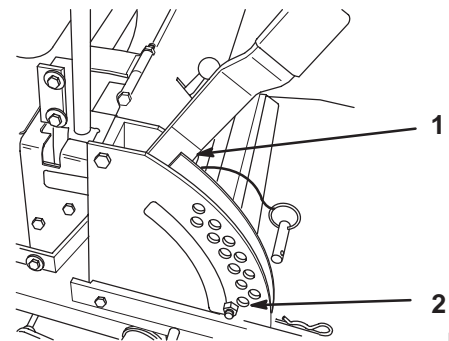
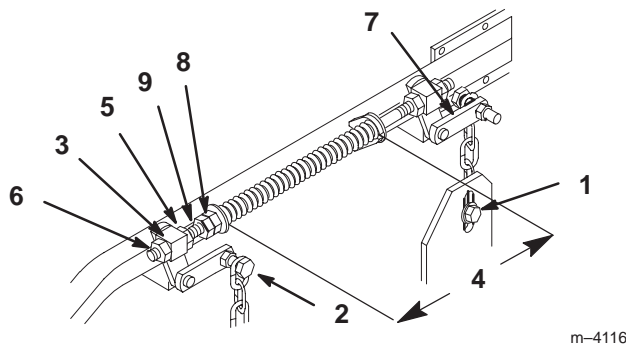

Figure 52
Figure 53
2. Check tire pressure of all four (4) tires. If needed, adjust to 13 psi (90 kPa).
4. Raise the deck to the transport position (Fig. 52). Take force off of the two large deck lift springs by loosening jam nut and front spring nut, in front of each spring, as far as possible (Fig. 53).
5. Place two 1-3/8" (35 mm) thick blocks under rear left and right lower edge of mower. Place one 1-3/4" (44 mm) block under front center lower edge of mower. Not under anti-scalp roller brackets. Lower mower to the 1-1/2" (38 mm) height-of-cut position (Fig. 52).
6. Loosen bottom chain bolt in slot at rear of deck. Repeat for opposite side (Fig. 53).
- Loosen front and rear locking nut on either side of front swivel. Loosen until front chains are loose and deck is supported by blocks. Repeat for opposite side. (Fig. 53).
- When hardware is loosened, remaining tension in the large support springs will tend to rotate the deck lift handle up, out of the 1-1/2" position. Press down on the rear deck support arm to firmly return the deck lift handle to the 1-1/2" position (Fig. 53).
- While continuing to press down on rear deck support arm, take the slack out of the rear chain and tighten hardware at the bottom (Fig. 53). Downward pressure may now be released. Repeat for opposite side.
- Raise deck lift lever to the transport position (Fig. 52).
- Adjust compression springs by turning the front spring nuts so the distance between the two large washers is 10-1/4" (260 mm). Then tighten jam nut (Fig. 53).